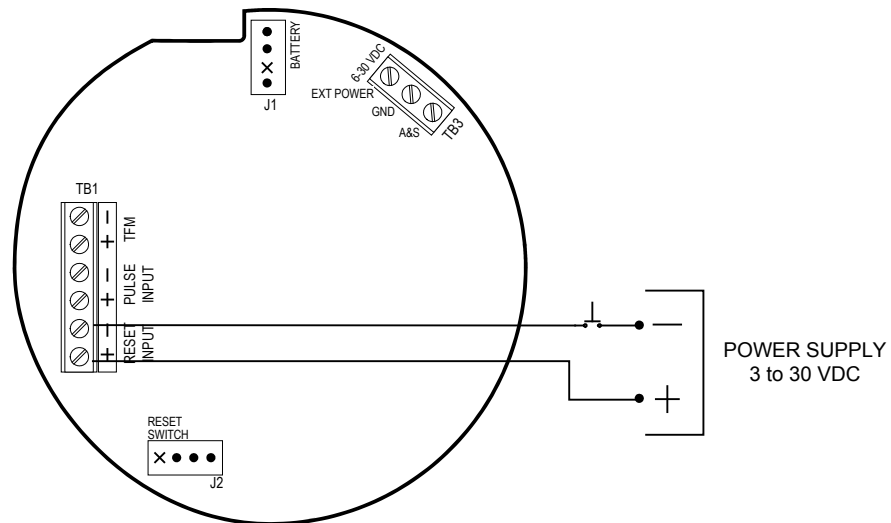
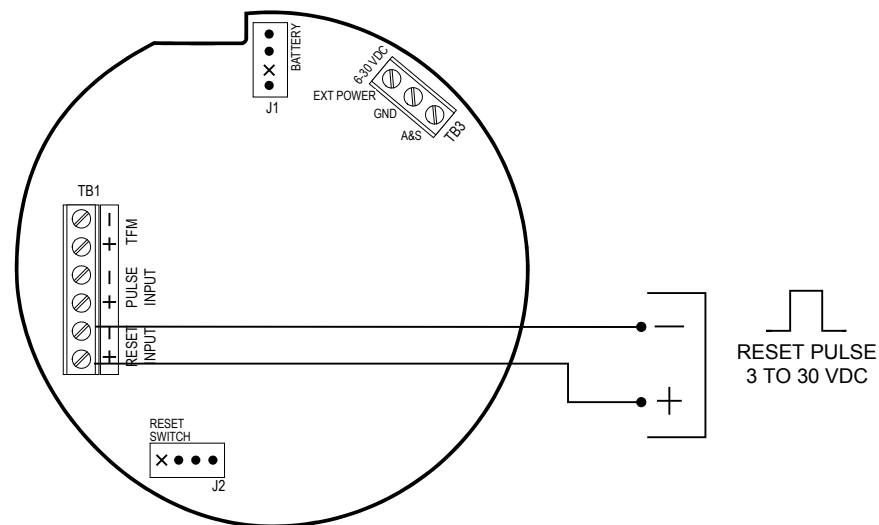

Figure 2.10—Reset input wiring (switch/power supply)
Figure 2.11—Reset input wiring (pulse)
6. Connect wiring for the remote reset input to terminal block TB1, if appropriate. See Figure 2.10 and 2.11, page 21.
The remote reset input allows the operator to reset the accumulated volume on the MC-III WP to zero without opening the enclosure. This input is optically isolated. The input is shown connected in two ways, with a power supply and switch in a remote location (Figure 2.10), and with a pulse generator in a remote location (Figure 2.11).